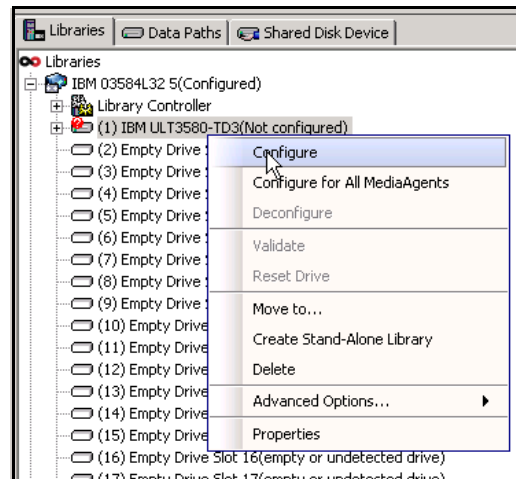

Figure 18-10 Configure first tape drive
12. Configure the first detected tape drive from the Libraries tab (Figure 18-10). This action enables you to configure all other tape drives in the future in one step.